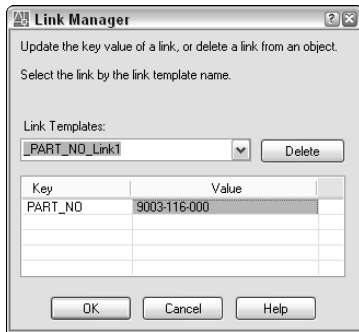

Figure 20-11: The Link Manager enables you to edit key value data for its linked object.
1. Choose `dbConnect ⇄ Links ⇄ Link Manager` to open the `Link Manager`, shown in Figure 20-11. You can also select a linked object, right-click in the drawing area, and choose `Link ⇄ Link Manager`.